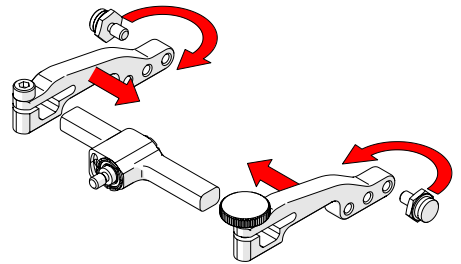

Fig. 95 - Attach arms and move buttons
4. Place the pivot buttons on the inside of the probe holder arms (Fig. 95) using a 3/8 in wrench (Fig. 25). Slide the arms onto the yoke and tighten the probe holder arm adjustment knob and the arm clamp screw.